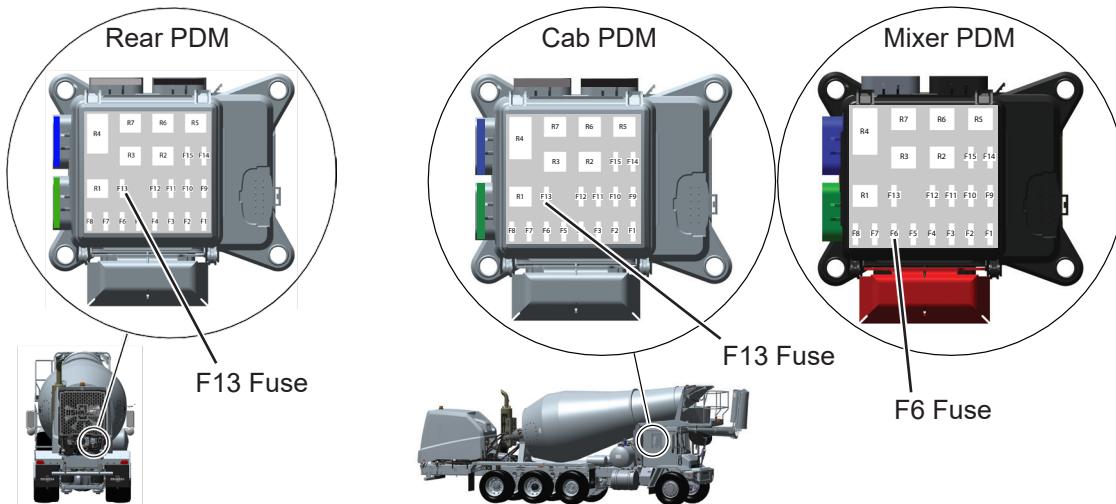

Figure 1
3. Remove rear PDM cover. See Figure 1.
4. Locate and remove 10 amp fuse F13 from rear PDM. See Figure 1.
7. Remove cab PDM cover. See Figure 1.
8. Locate and remove 10 amp fuse F13 from cab PDM. See Figure 1.
11. Remove mixer PDM cover. See Figure 1.
12. Locate and remove 5 amp fuse F6 from mixer PDM. See Figure 1.